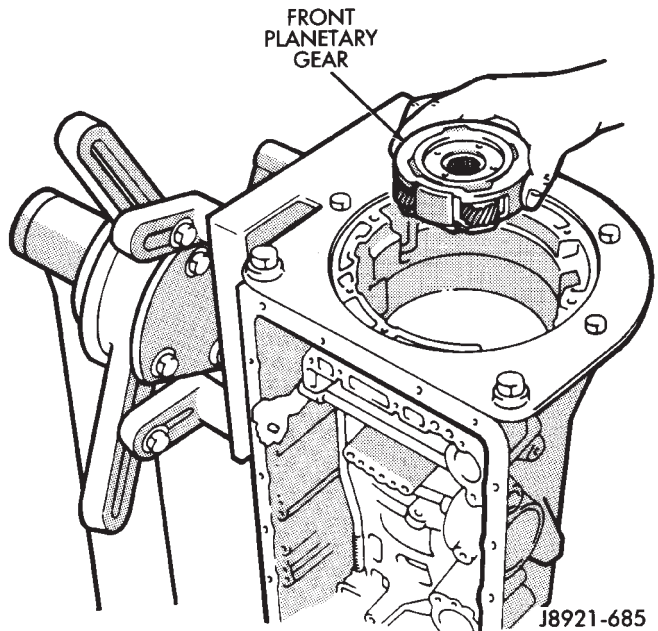

Fig. 141 Installing Front Planetary Gear
(33) Install front planetary gear on sun gear (Fig. 141).